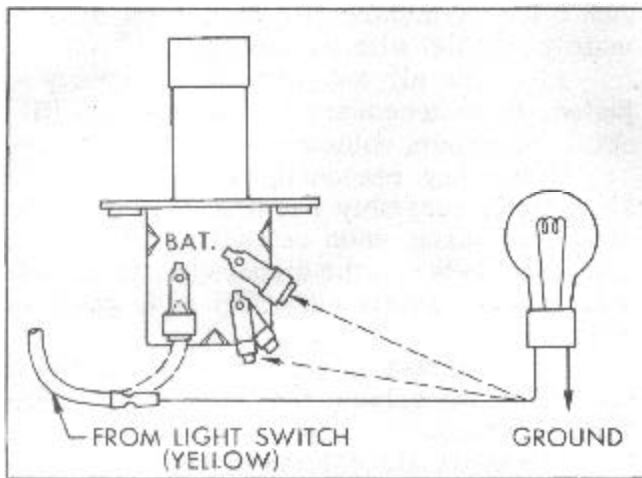

FIGURE 32
2. With the light switch on, connect the dimmer switch battery wire to a test lamp and ground the other lamp terminal, Figure 32.